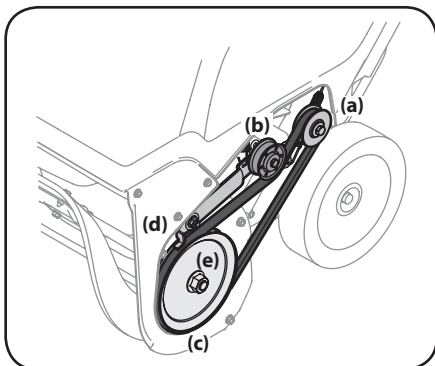

Figure 4-6
- Route the belt around the drive pulley (a) and under the idler pulley (b). See Figure 4-6.